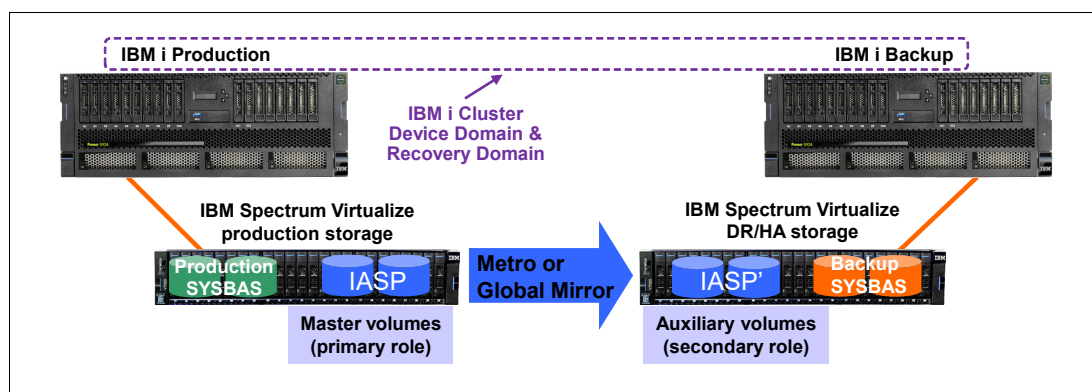

Figure A-12 IBM i IASP replication with IBM Spectrum Virtualize
IASP-based replication for IBM i is used for a high availability (HA) solution where an IBM i production and an IBM i backup node are configured in an IBM i cluster and the IASP that is replicated by IBM Spectrum Virtualize remote replication is switchable between the two cluster nodes, as shown in Figure A-12.